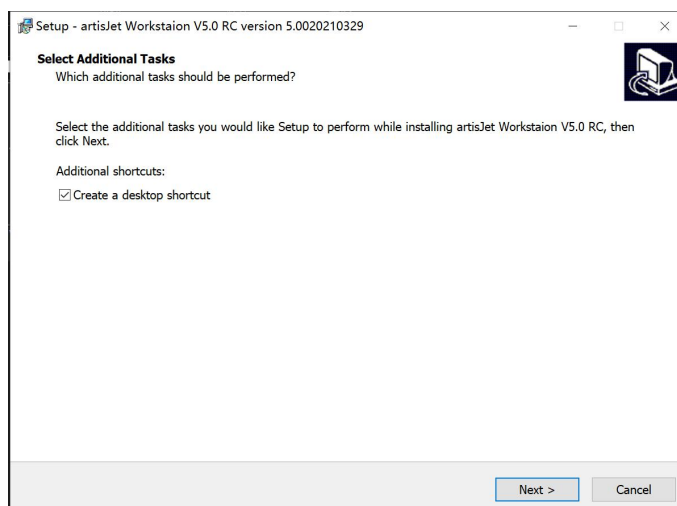
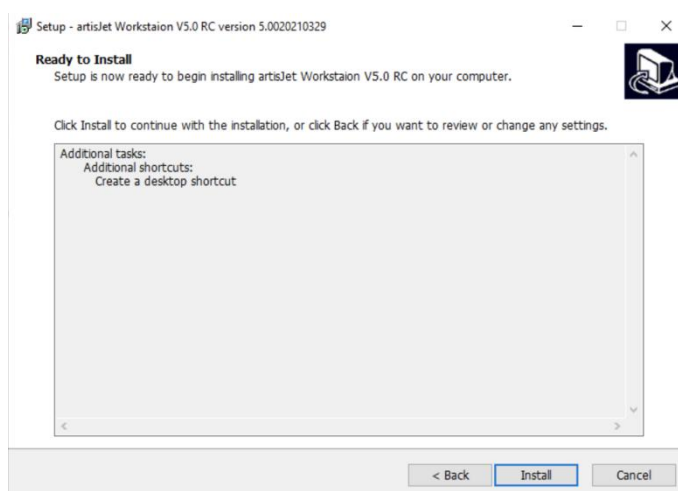

Fig. 3 – Installation wizard window
Fig.4 – Initialize installation process
Step 2 - The installation wizard will pop up (Fig. 3). Please click “Next” to continue the installation steps and procedures (Fig. 4).
Step 3 - Click the “Install” button to initialize the installation process (Fig. 4).